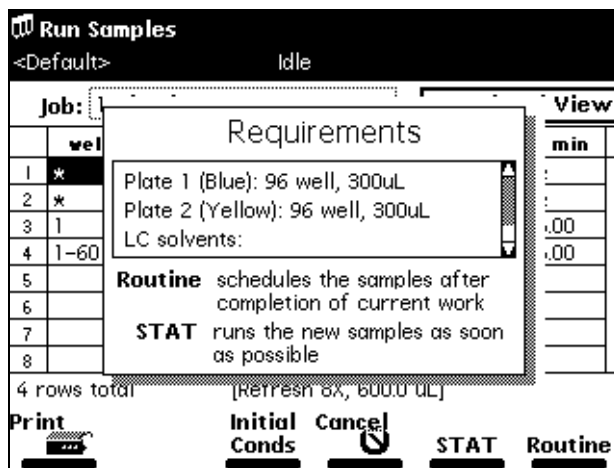

Figure 4-4 Requirements Screen
4. Press the **Start** screen key. The Requirements screen appears (Figure 4-4). Check that the information in this screen is correct.
5. Press the **Start** screen key. The Requirements screen appears (Figure 4-4). Check that all information in this screen is correct.